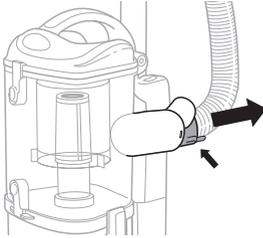

Fig. 30
- Detach the stretch hose from the back of the portable *Lift-Away™* canister by squeezing the tabs together and pulling up. **(Fig. 30)** Straighten out the hose and look inside for blockages.